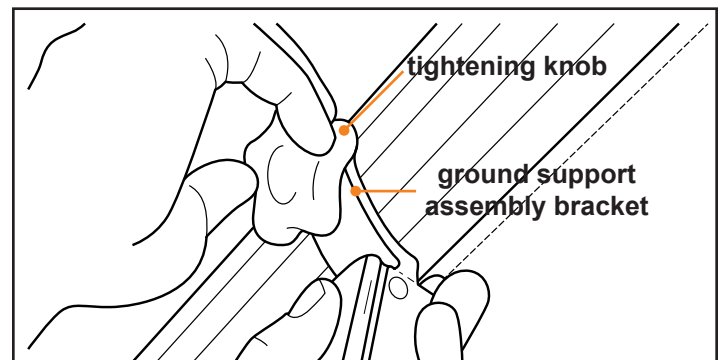

Fig.8
9. Place the Ground Support assembly bracket over the threaded hole. Insert the tightening knob into the threaded hole (Fig.8). Tighten to mount the Ground Support assembly to the roll tube.